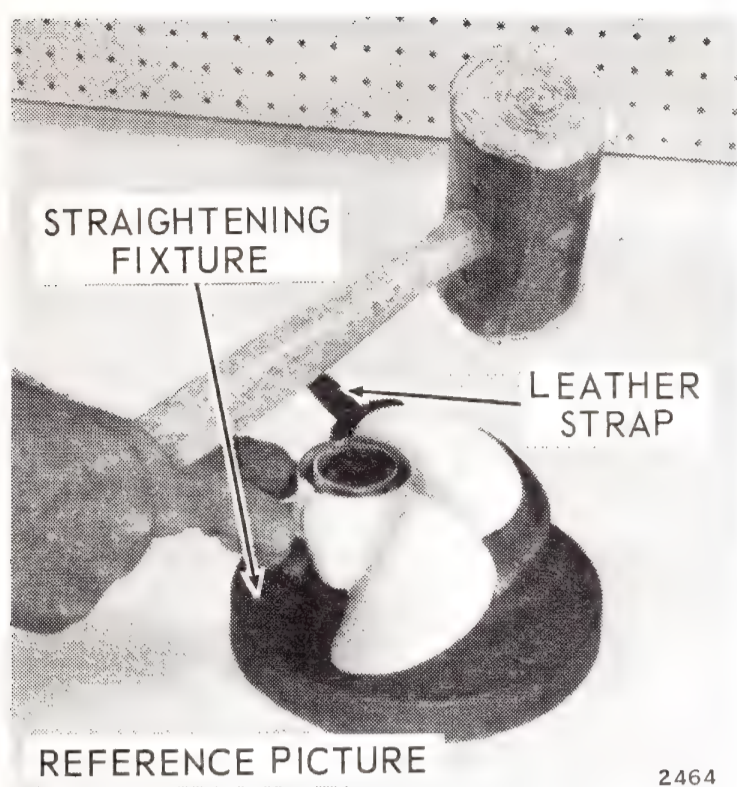

Figure 6-28. Re-pitching Propeller
e. Inspect propeller for nicks, broken blades, and cracks. DO NOT attempt to weld cracked or broken propellers. Remove minor nicks with a file. Note that the aft side of the propeller is flat while the other side is rounded. File blades accordingly to retain shape. Check pitch on propeller pitch block. See Special Service Tool Catalog for proper fixture to check pitch of propeller. To straighten bent blades, use a piece of leather strap or belting under the part of the blade that touches the fixture. Rap high part of blade smartly with a No. 3 rawhide mallet. The leather allows a slight overbend to correct for the blade's tendency to spring back. See Figure 6-28.